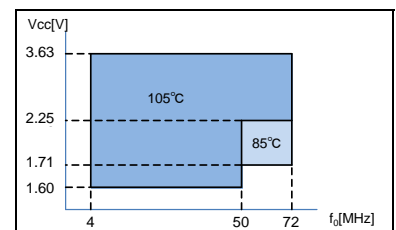

Figure 1 : The upper limit of Operating temperature and the related conditions
| ④Supply voltage *See Figure 1 | | ⑥Frequency tolerance / ⑥Operating temperature range | |
| ③Supply voltage *See Figure 1 | | ⑤Frequency tolerance | |